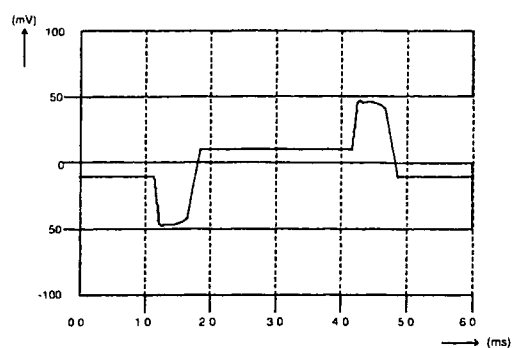

Figure 22A: Monitor signal before the 'GAIN2' adjustment
- Adjust the slave 'GAIN2' potentiometer in such way that the signal measured at 0.5, 3.0 and 5.5 msec have the same amplitude. Gain mismatch is minimal. Increase the sensitivity of the current probe, see figures 22a and 22b and continue the adjustment. Repeat the adjustment until a sensitivity of 50 mV/A has been reached and the gain mismatch is: